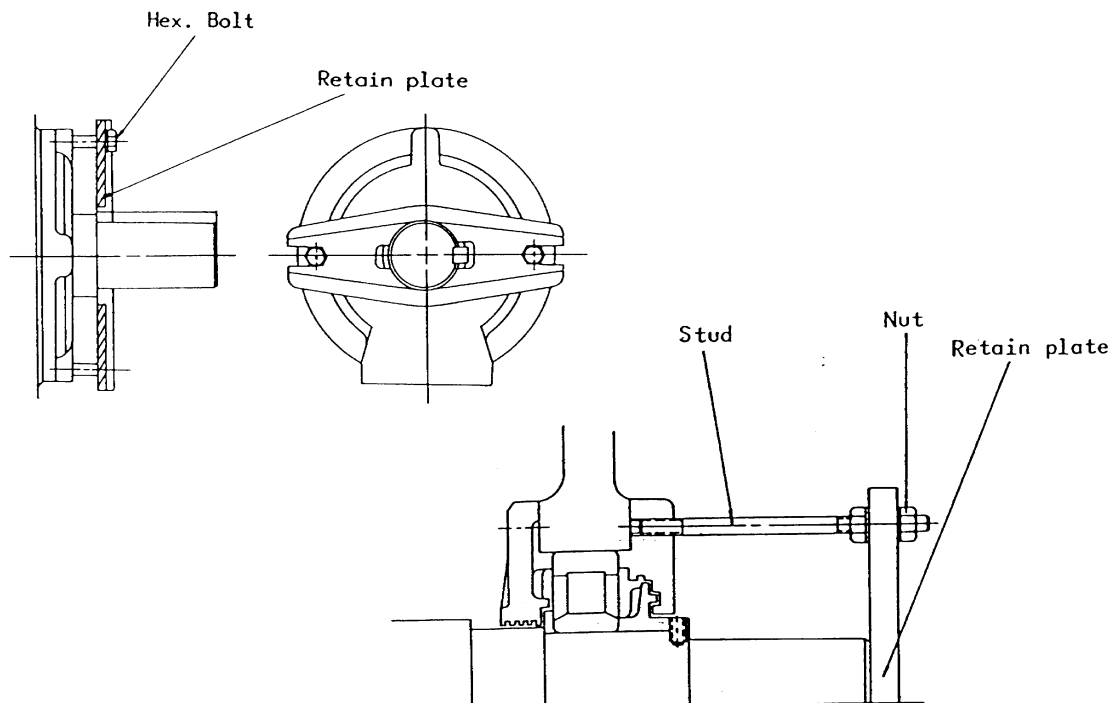

Fig 3
3.3.2. After receiving motor, remove all securing studs, nuts, etc. before putting motor into operation. (Fig.3)